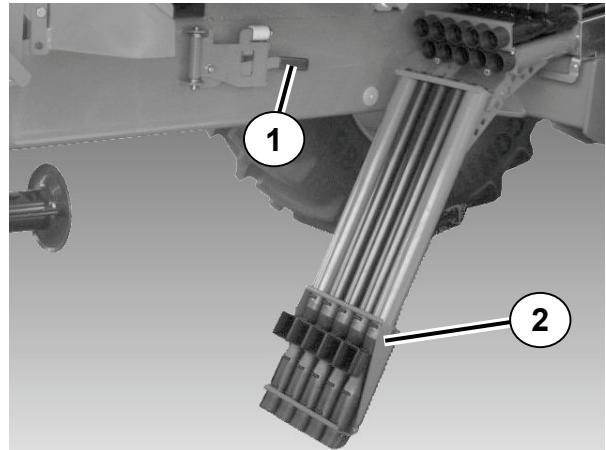

Fig. 31: Lowering the air duct
The lever (Fig. 31: Pos. 1) for the rack is swung back fully to the frame and engaged.
5. Now lower the air duct (Fig. 31: Pos. 2) with your left hand.